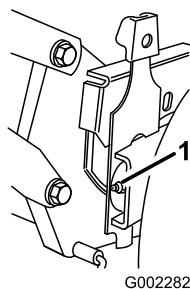

Figure 21
2. Wipe the grease fittings with a clean rag (Figure 21).
3. Install a grease gun onto the fitting and gently apply 2 or 3 pumps of #2 multi-purpose lithium base grease (Figure 21).